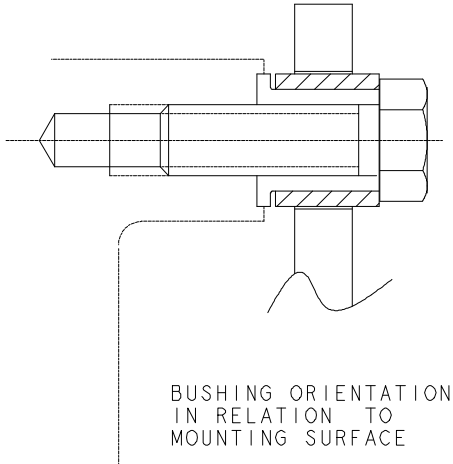

Figure 9
2.3.2 Refer to Figure 9 for proper bushing orientation. Noting the proper orientation, insert the hex head screw (28) through the bushing. Apply Loctite® #243 to the threads of the socket head screw (28) and insert the bushing into the counterbore in the flywheel or support structure. Immediately tighten the hex head screw before the Loctite cures, tightening the screw to the torque to value listed in Table 3. Repeat these procedures to install remaining bushings.